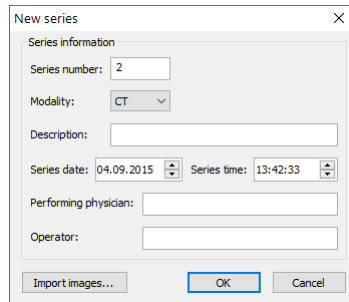

Figure 410 – New series dialog
3. Fill the information concerning the new series into the **New series** dialog (see Figure 410).